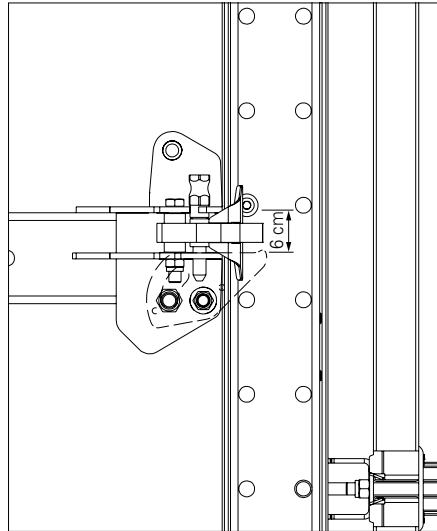

Fig. D4.04
1. Lift climbing unit with crane by approx. 6 cm. (Fig. D4.04)